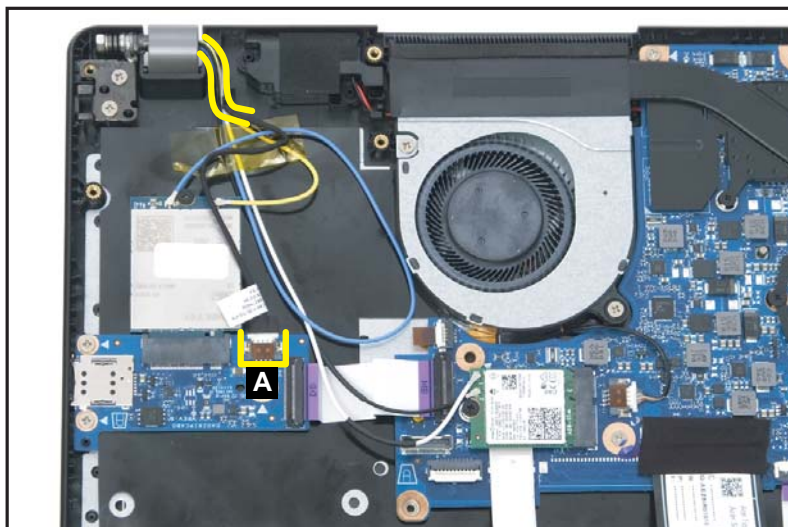

Figure 1-34. LCD Module Removal
1. Disconnect the tuner antenna cable from the LTE board connector (A) (Figure 1-34).
2. Unroute the tuner antenna cable from the guide on the top assembly (Figure 1-34).